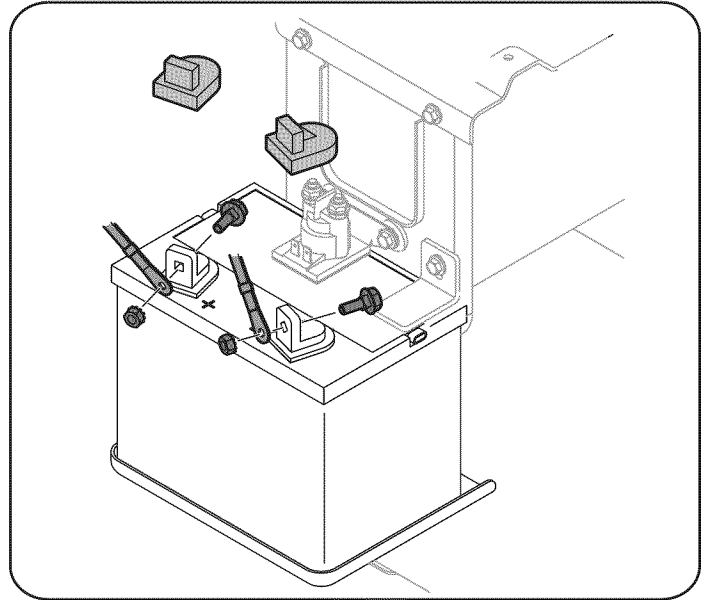

Figure 12
1. Remove the plastic cover, if present, from the positive battery terminal and attach the red cable to the positive battery terminal (+) with the carriage bolt and hex nut using a 7/16 inch wrench or socket wrench. See Figure 12.
2. Remove the plastic cover, if present, from the negative battery terminal and attach the black cable to the negative battery terminal (-) with the carriage bolt and hex nut using a 7/16 inch wrench or socket wrench. See Fig. 12.